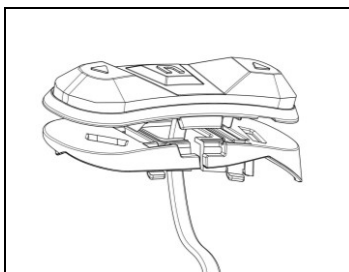
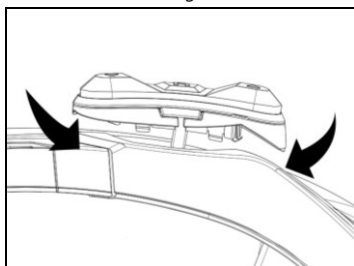

Fig. 19
Fig. 20
- Rotate the keypad support so as to position it like in Fig. 19, then hook it to the keypad (Fig. 20).